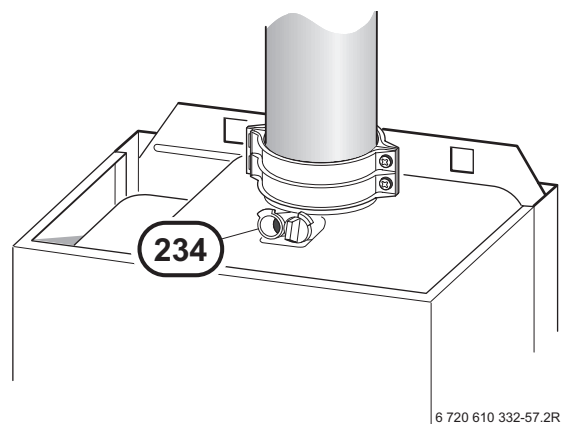

Fig. 40
- Switch on the appliance at the master switch (I).
- Unscrew sealing plug from flue gas testing point (234). Refer to fig. 40.